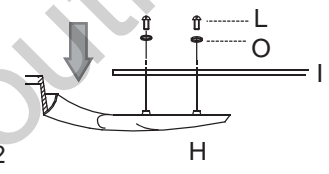

Fig. 2
2. Position blade arm (H) under blade (I) and attach blade arm (H) to blade (I) with blade screws (L) and blade washers (O). Do not tighten blade screws (L) until each blade screw (L) has been started. Then, tighten each blade screw (L) starting with the one in the middle. [Fig. 2] Repeat for the remaining blades (I).